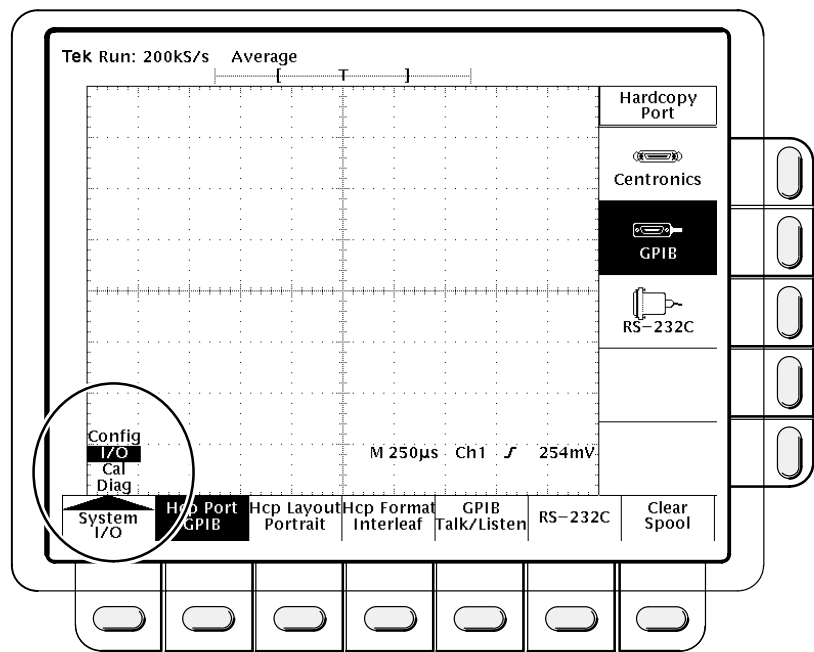

Figure 2-4: A “Pop-Up” Menu
- The leftmost bottom menu button sometimes activates a special “pop-up” menu (as shown in Figure 2-4). You can cycle through the pop-up menu options by repeatedly pressing the button. Each selection calls up different bottom and side menus.